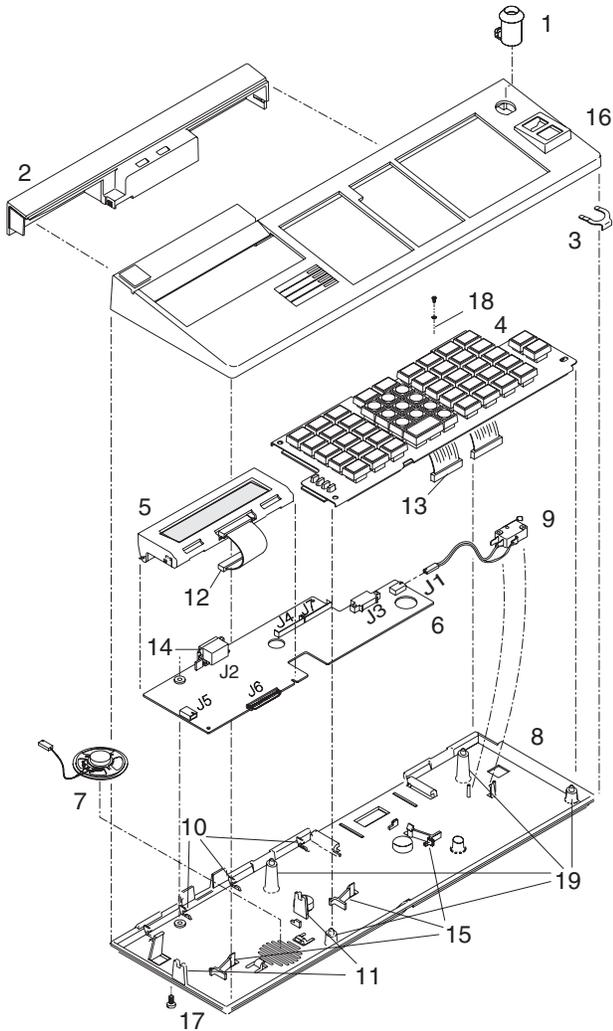

Figure 4-13. Removing a Combined Keyboard/Display Component
- 3 Remove the grounding screw (18). See Figure 4-13 on page 4-20.
- 5 Disconnect the cables from cable sockets J4 and J7. See Figure 4-13 on page 4-20.
- 5 Remove the grounding screw (17) that goes through the keyboard base and attaches to the logic board. See Figure 4-13 on page 4-20.
- 7 Release the 3 logic board latches (15).
- 8 Move the logic board from under the tabs (10) and lift it out of the keyboard base.
- 3 Remove the keylock retainer (3). See Figure 4-13 on page 4-20.
- 4 Lift the keylock (1) out of the keyboard cover.
- 3 Lift the keypad assembly and turn it over as shown in Figure 4-13 on page 4-20.
4 Disconnect the cable on the manager's keylock switch (9) from cable socket J1. See Figure 4-13 on page 4-20.
6 Disconnect the cable on the speaker (7) from cable socket J5. See Figure 4-13 on page 4-20.